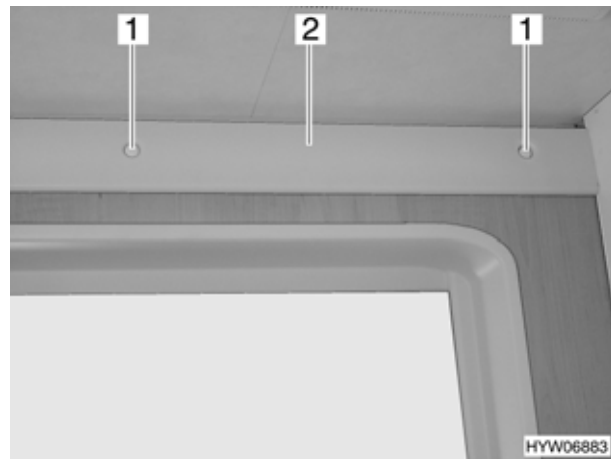

Fig. 170 Toilet light (variant 2)
- Remove caps (Fig. 170,1).
- Remove lamp glass (Fig. 170,2).